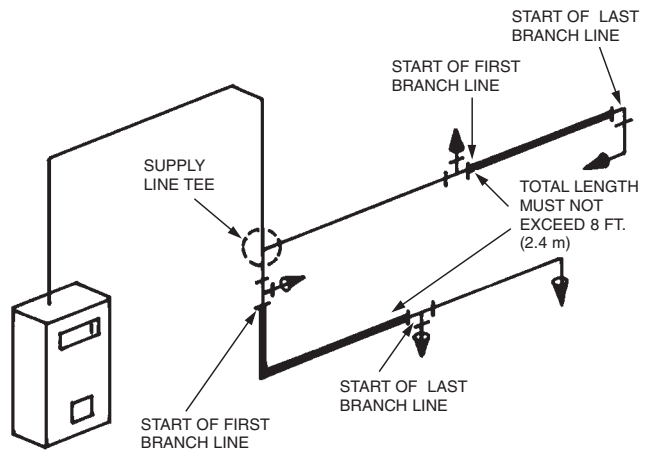

FIGURE 91
- ▶ 5. The pipe length between the start of the first branch line and the start of the last branch line must not exceed 8 ft. (2.4 m). When the supply line is split, the **combined length** of both legs of the supply line (start of first branch line to start of last branch line) must not exceed 8 ft. (2.4 m). See Figure 91.